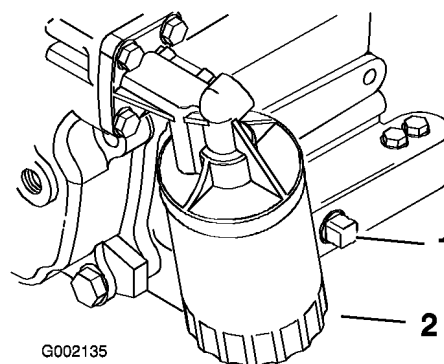

Figure 35
5. Remove the drain plug (Figure 35) and let the oil flow into a drain pan. When the oil stops, install the drain plug.
- Remove the existing oil filter (Figure 35).